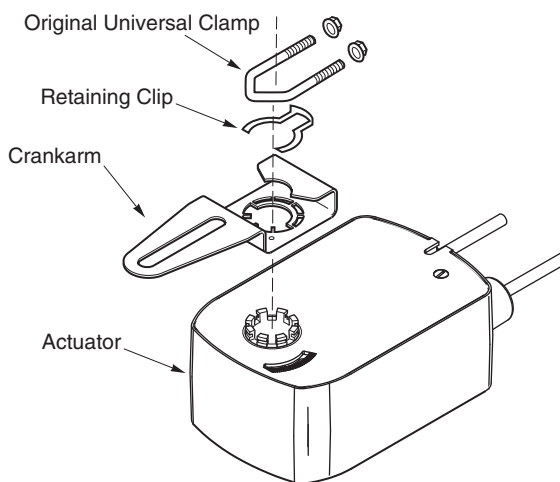

Figure-4 Mounting AM-711 Crankarm.
3. Secure the crankarm in place using the retaining clip provided. See Figure-4. Place the retaining clip inside the crankarm, making sure to align the retaining clip with the grooves on the actuator mounting. Push the retaining clip with finger pressure until it clicks into place.